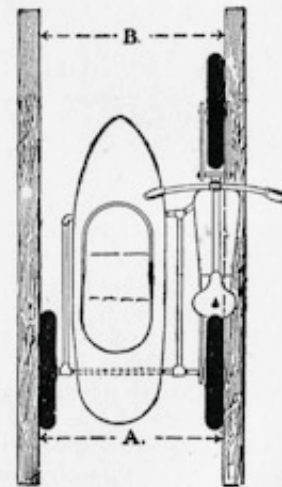

FIG. 40. SIDECAR ALINEMENT
**Wheel Alinement.** This is highly important, having regard to tyre wear. Check by means of straight-edges placed across the wheels. Needless to say the axes of all three wheels on a sidecar must be parallel. Some riders prefer to make distance  $B$   $\frac{1}{2}$  in. less than distance  $A$ . The method of procedure is self-evident (Fig. 40). The cycle should be fixed so that it is dead upright or leaning